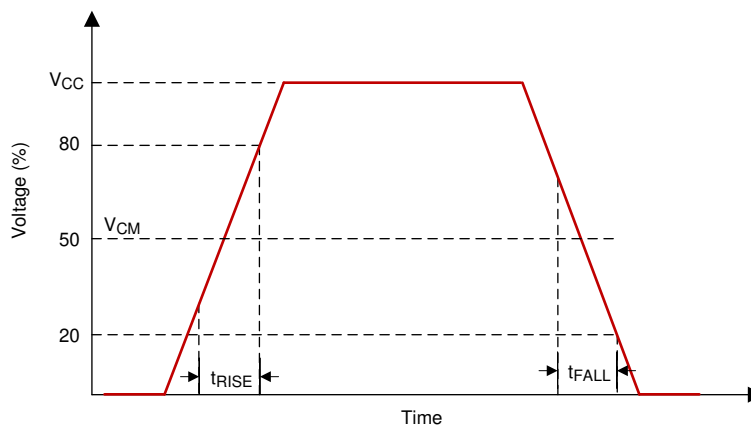

Figure 6-3. SCP Requirements for Rise and Fall
(1) See Figure 6-3 for rise time and fall time for SCP.